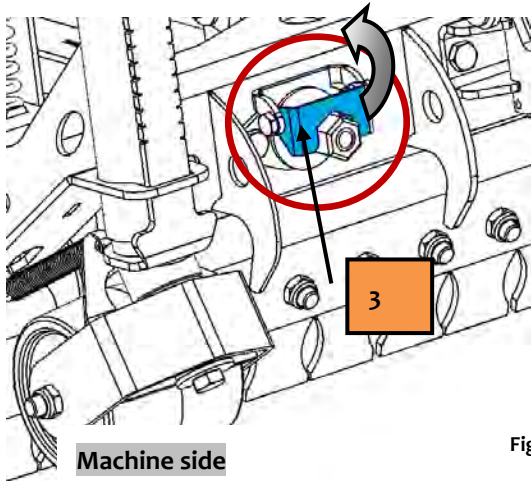

Fig. 14
Pull the spring bolts (3) ↗ on both sides upwards, rotate around 180° and lock in position (in nick) → Fig. 14.
Pull main gripping in the corresponding borehole position (Fig. 19) and insert bolt again (see fig. 17). Secure bolt with safety clip (as shown in fig.17) again. Rotate the spring bolt again around 180° (as shown in fig.14) and lock in position (see adjustment sticker at the device).